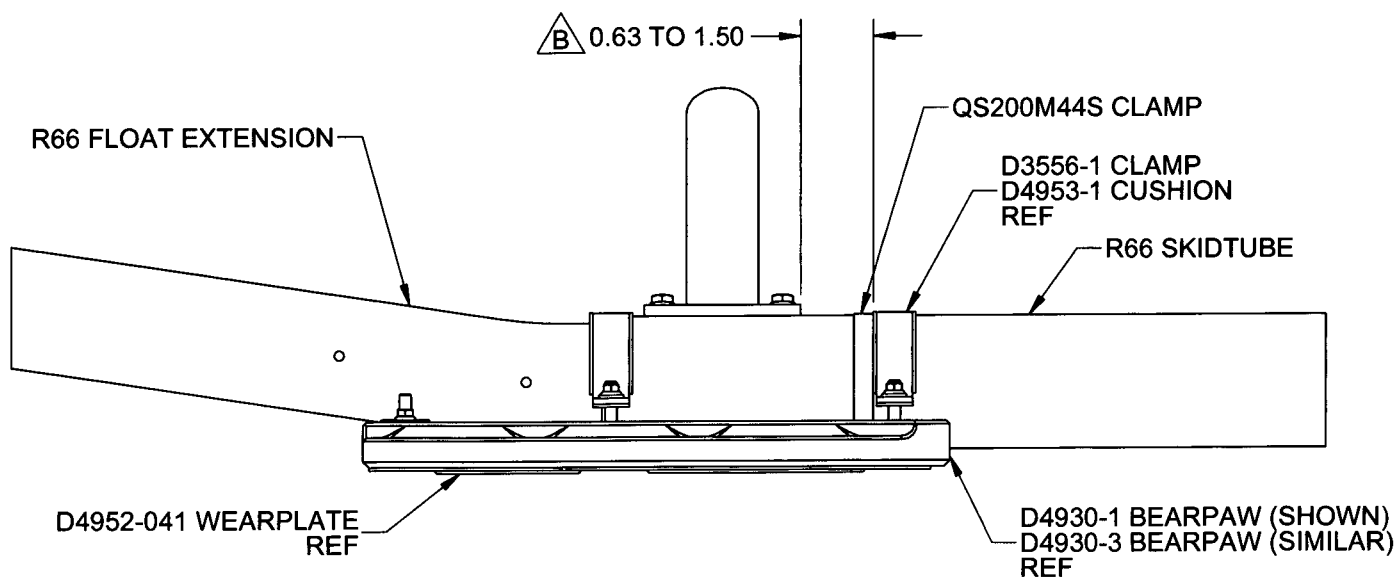

FIGURE 1 - D066-1001-011 Bearpaw Installation with 649.9401/649.9402 Emergency Floats
- 2.2 Install each bearpaw with the forward clamp ahead of the QS200M44S Clamp per Figure 1 and using the instructions provided in IIN-D066-1001.